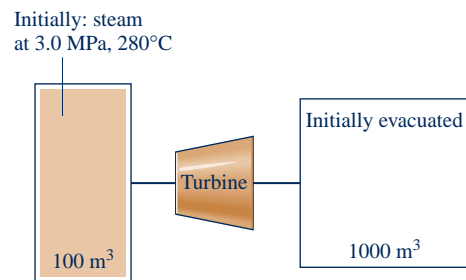

Fig. P6.79
6.79 As shown in Fig. P6.79, a turbine is located between two tanks. Initially, the smaller tank contains steam at 3.0 MPa, 280°C and the larger tank is evacuated. Steam is allowed to flow from the smaller tank, through the turbine, and into the larger tank until equilibrium is attained. If heat transfer with the surroundings is negligible, determine the maximum theoretical work that can be developed, in kJ.